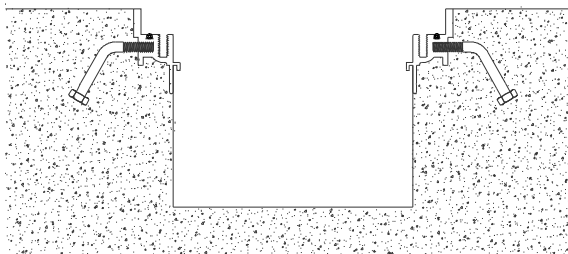

Figure 6
**STEP 11.** After the concrete has cured, remove the temporary wooden cover from the frame and remove the wooden bracing from the liner (see Figure 6).